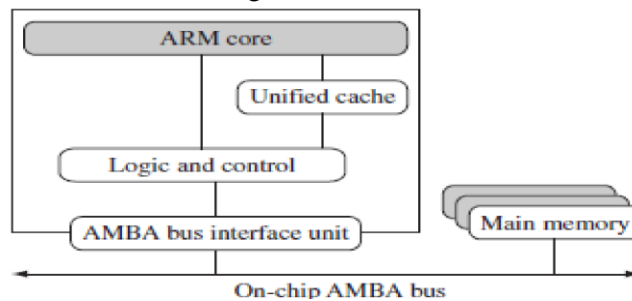

Figure 1: A simplified Von Neumann architecture with cache.
- ARM has two forms of cache. The first found attached to the Von Neumann-style cores. It combines both data and instruction into a single unified cache as shown in the figure 1 below.